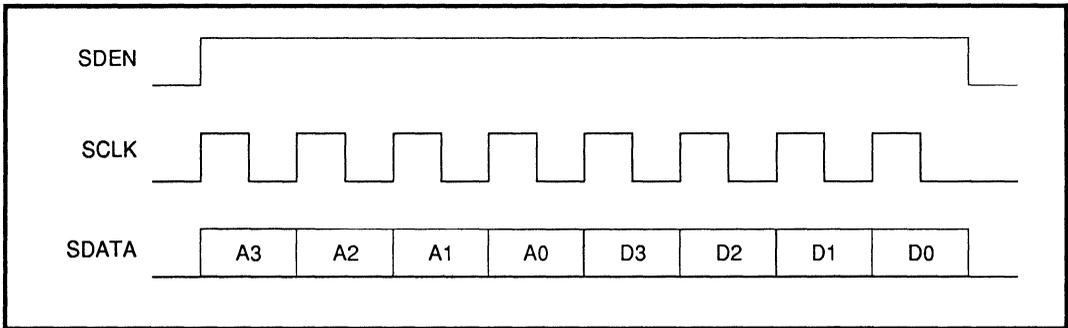

FIGURE 2: Serial Port Timing
contain the programming data. The timing considerations for the serial port are fairly straight forward (see Figure 2). The enable line is driven high to initiate the data transfer. While the enable line is high, the transmitting device should output eight clock pulses along with eight bits of synchronous programming data. The data is shifted internally on the falling edge of the clock pulses. To prevent false data from being latched in, only eight (8) clock pulses should be provided while the enable line is active. The falling edge of the enable input will latch the data into the internal registers and initiate the selected function.